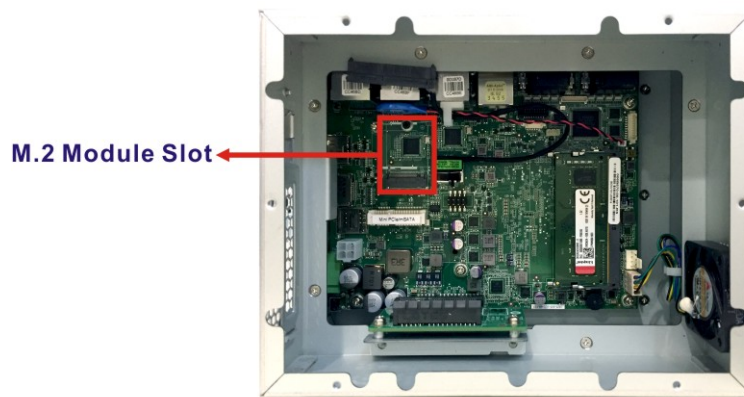

Figure 3-11: M.2 Slot Location
Step 2: Locate the M.2 slot on the motherboard (**Figure 3-11**). Remove the on-board retention screw.